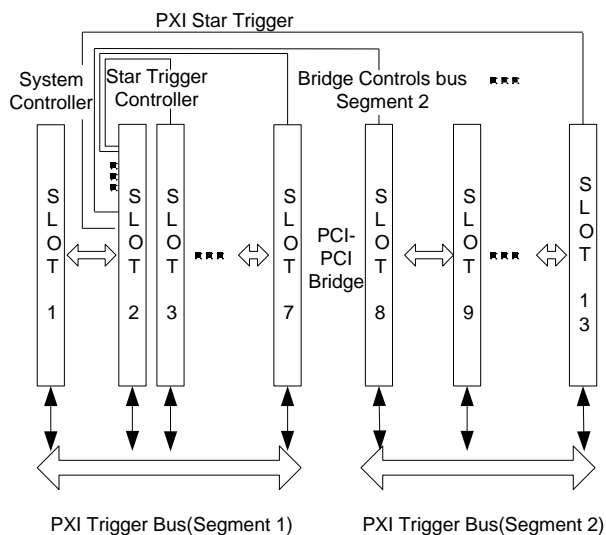

Figure 2-15: PXI Trigger Architecture
Slot 2 is the Star Trigger (ST) Controller slot (2nd from the bottom left). This slot has a dedicated trigger line going to slots 3 through 14. The Star Trigger is used to synchronize between 12 instruments and it utilizes back plane traces that are of equal length, providing for a skew of less than 1nSec between slots. If you do not need a Star Trigger Controller, any PXI or cPCI instrument can be used in this slot. See Figure 2-15 in this chapter for more information about the available trigger architectures.
The GX71xx has 12 peripheral slots located in slots 3 through 14 as shown in Figure 2-15. Slots 3 through 14 supports the Star Trigger.
The PXI trigger bus provides connectivity only within a single bus segment and does not allow physical connection to an adjacent bus segment. This maintains the high performance characteristics of the trigger bus and allows the GX71xx to partition instruments into logical groups as show in Figure 2-15. However, logical connections of the trigger bus are allowed. Under software control, the GX71xx's trigger lines can be isolated or interconnected to each segment's eight trigger lines. Signal direction between segments is also controlled by software for each trigger line.